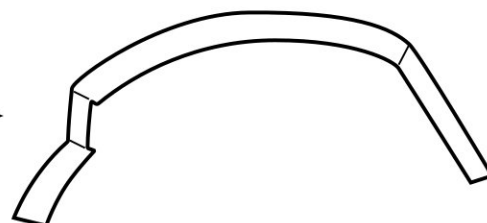

Fig.2
- Fold the light-shielding sheet (#200) at the position of Fig.1, to become like Fig.2.